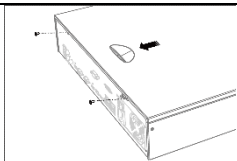

Figure 2-4 Remove Cover
Step 1 Unfasten screws on the back and push the cover backwards to remove the cover. Refer to Figure 2-4.